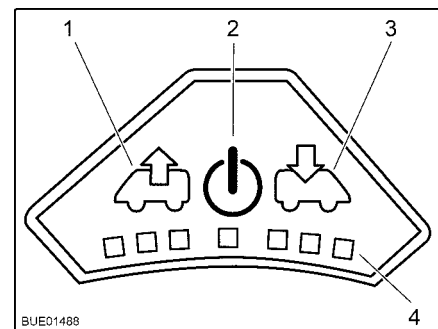

Fig. 116 Control panel for fan
- Press the On/Off button (Fig. 116,2). The fan runs in comfort mode (venting at slowest fan speed).
- To increase the fan speed: Press the Vent button (Fig. 116,1). The fan speed in the venting direction increases by one level. LEDs (Fig. 116,4) show the operating levels.
- To lower the fan speed: Press the Aerate button (Fig. 116,3). The fan speed decreases by one level.
- To increase the fan speed: Press the Aerate button (Fig. 116,3). The fan speed in the aerating direction increases by one step. LEDs (Fig. 116,4) show the operating levels.
- To lower the fan speed: Press the Vent button (Fig. 116,1). The fan speed decreases by one level.
- Press the On/Off button (Fig. 116,2). The fan stops, the LEDs go out.